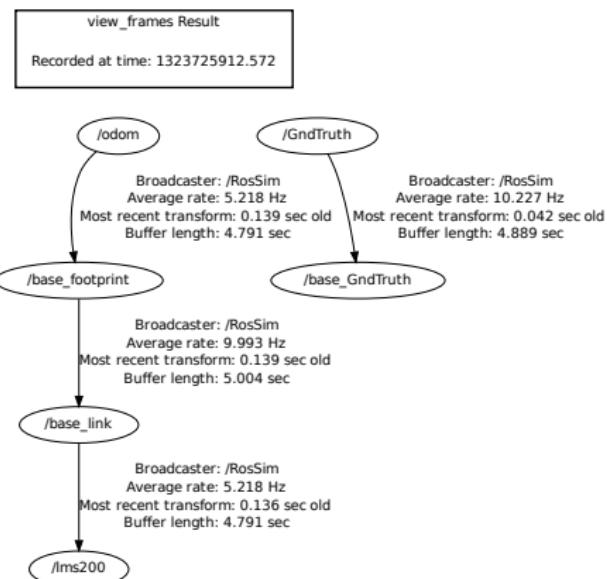

Figure 1: tf Transform tree for P3AT.
- Publishes a ROS transform tree (from the ROS **tf** package) – Figure 1